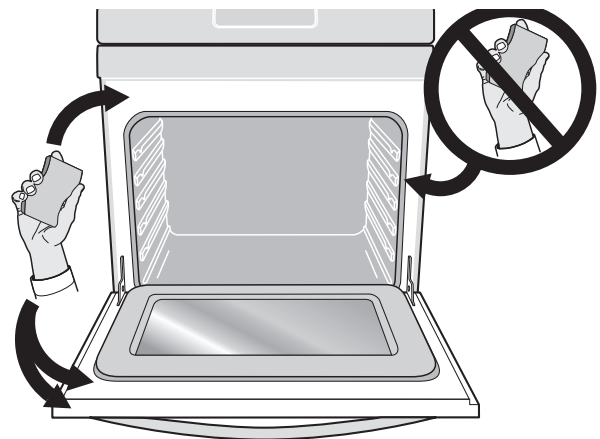

Figure 24: Cleaning around oven gasket
- Do not use oven cleaners or protective coatings in or around any part of the oven interior. Do not clean the oven door gasket. Take care not to rub, damage, or remove the gasket or use any cleaning substances on the oven door gasket (Figure 24). Doing so could cause damage and reduce the efficiency of the oven's performance.
- Clean any soil from the oven frame, door liner outside the oven door gasket, and the small area at the front center of the oven bottom with soap and water (Figure 24).